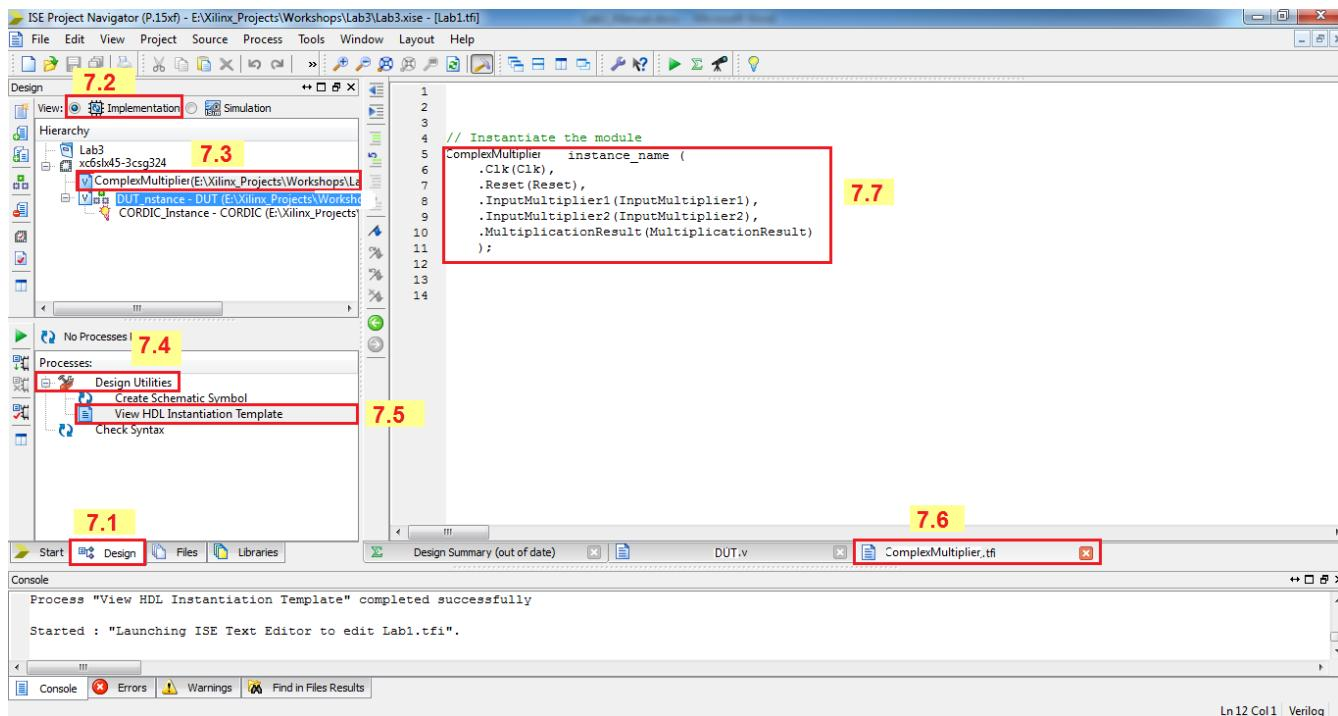

Figure 21.
7. Adding an Instance of Lab1 -Implementation of State1 (Figure 21)